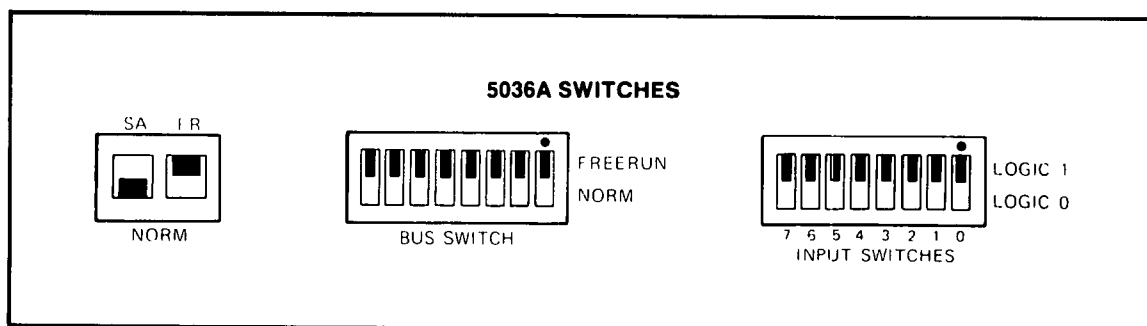

Figure 4-8. Signature Analysis, QUAL Mode Switch Settings
- d. Set the 5036A switches as shown in Figure 4-8.